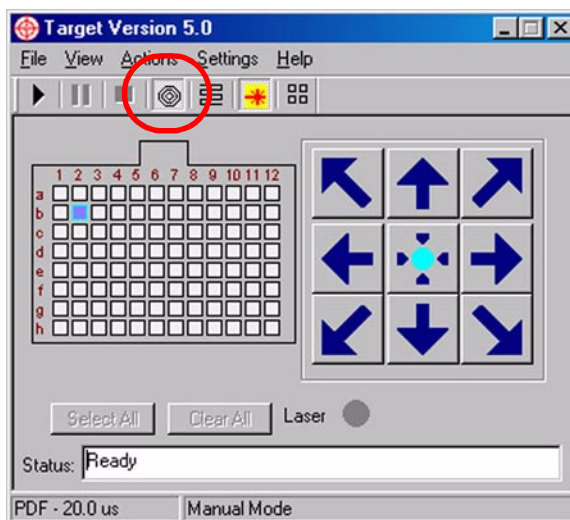

Figure 137 Deselect the Spiral Motion button circled in red
- 2 In the PDF-MALDI Target software, click spot D6 to select it. Deselect the push button for Spiral Motion. See Figure 137.